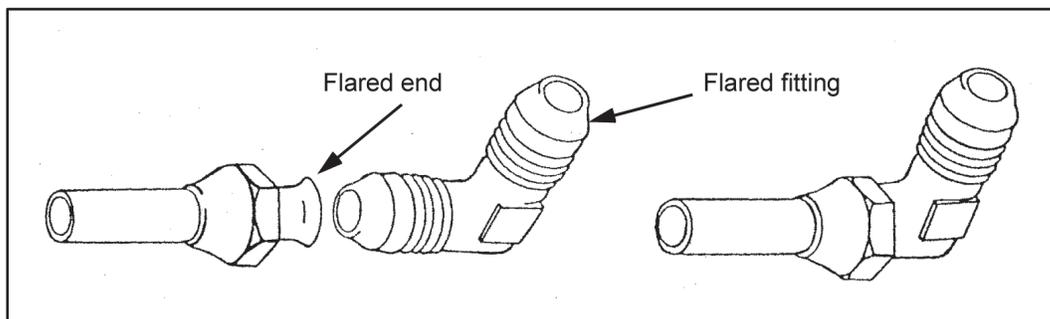

Figure 6-38. Flared joint
Step 4. Slide the flare/compression nut up to the flared end and screw it on the fitting hand tight, then tighten the flare/compression nut (figure 6-38, page 6-30).